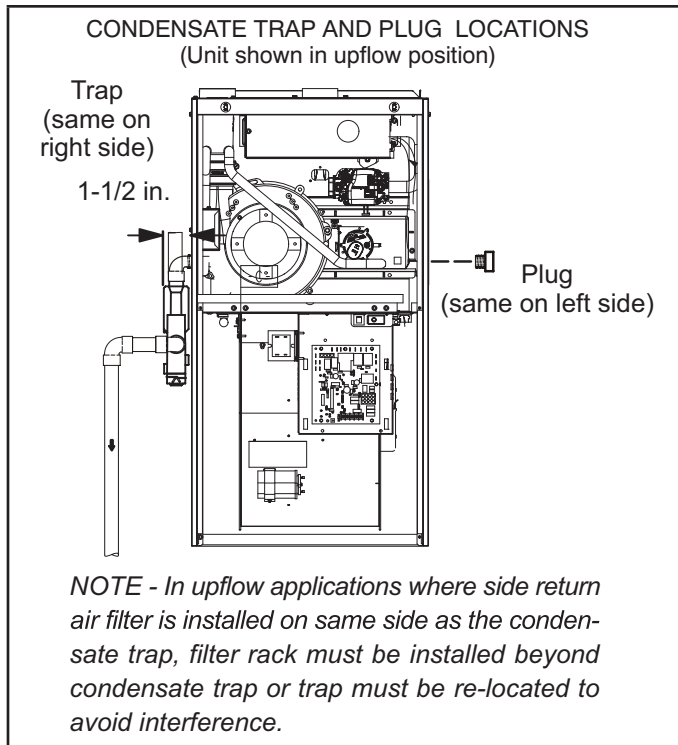
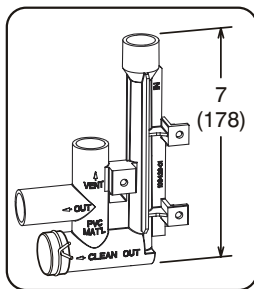

FIGURE 46
FIGURE 54
Refer to FIGURE 46 and FIGURE 48 for condensate trap locations. FIGURE 54 shows trap assembly using 1/2" PVC or 3/4" PVC.
- 2 - Use a large flat head screw driver or a 1/2" drive socket extension and remove plug (FIGURE 46) from the cold end header box at the appropriate location on the side of the unit. Install provided 3/4 NPT street elbow fitting into cold end header box. Use Teflon tape or appropriate pipe dope.
- 3 - Install the cap over the clean out opening at the base of the trap. Secure with clamp. See FIGURE 54.
- 4 - Install drain trap using appropriate PVC fittings, glue all joints. Glue the provided drain trap as shown in FIGURE 54. Route the condensate line to an open drain. Condensate line must maintain a 1/4" downward slope from the furnace to the drain.